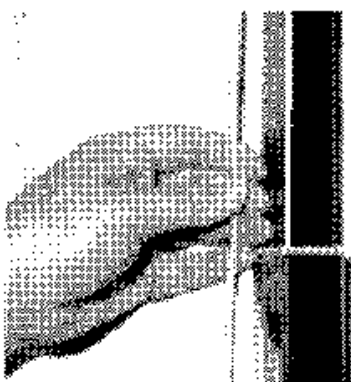

Fig. 3
4. Continue cranking until the limit cable is almost tight. Fig. 3
9. Now, complete raising roof until gray limit cable is snug. DO NOT OVERTIGHTEN. Fig 3